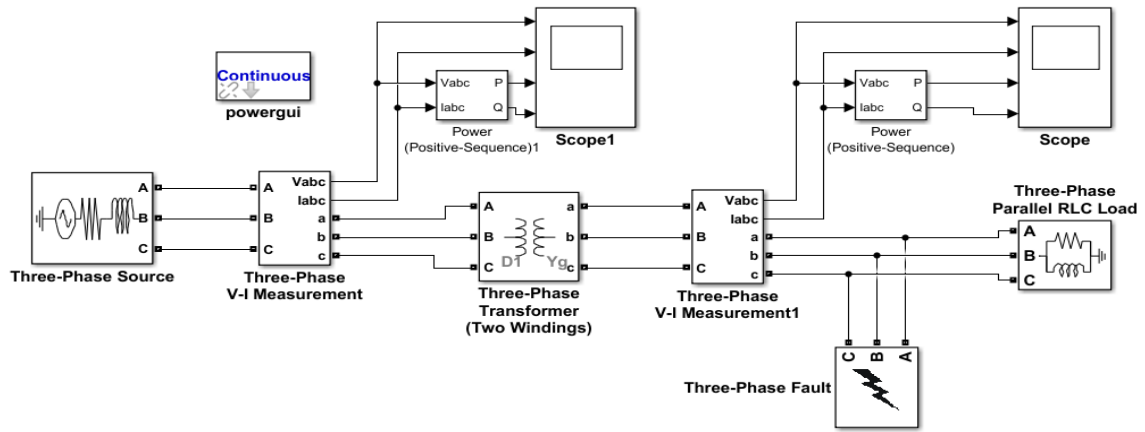

Figure 1: given power system
The network in Figure 1 shown is the sample Power System network to be analyzed in all types of active faults.
3. connect each feature as Figure 1 below.